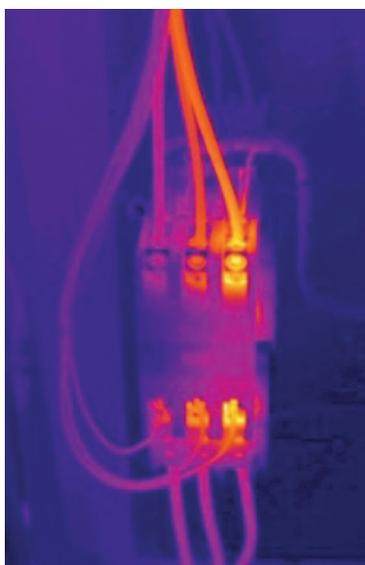

Fig.1
1. Detecting loose or corroded electrical connections (Fig. 1)